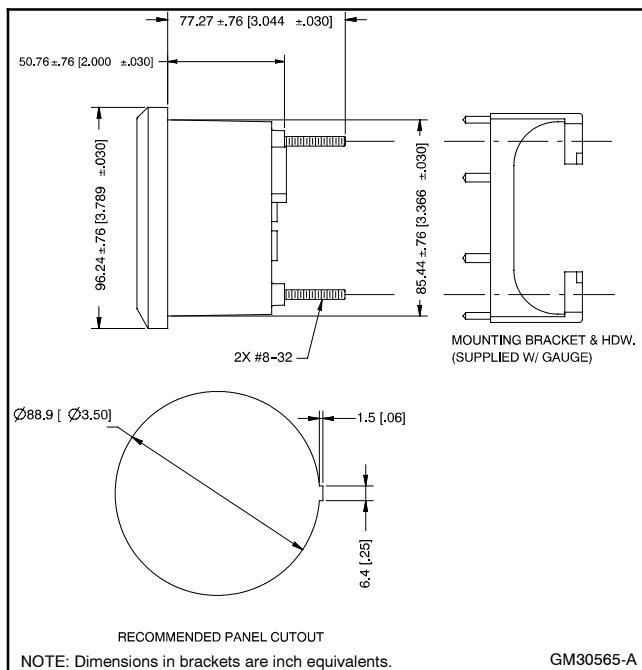

Figure 3 Mounting Dimensions
- 2.1 Select a dry location to mount the remote digital gauge. Consider the length of the wiring harness and the gauge's mounting depth and size when selecting a location. See Figure 3 for the mounting dimensions.